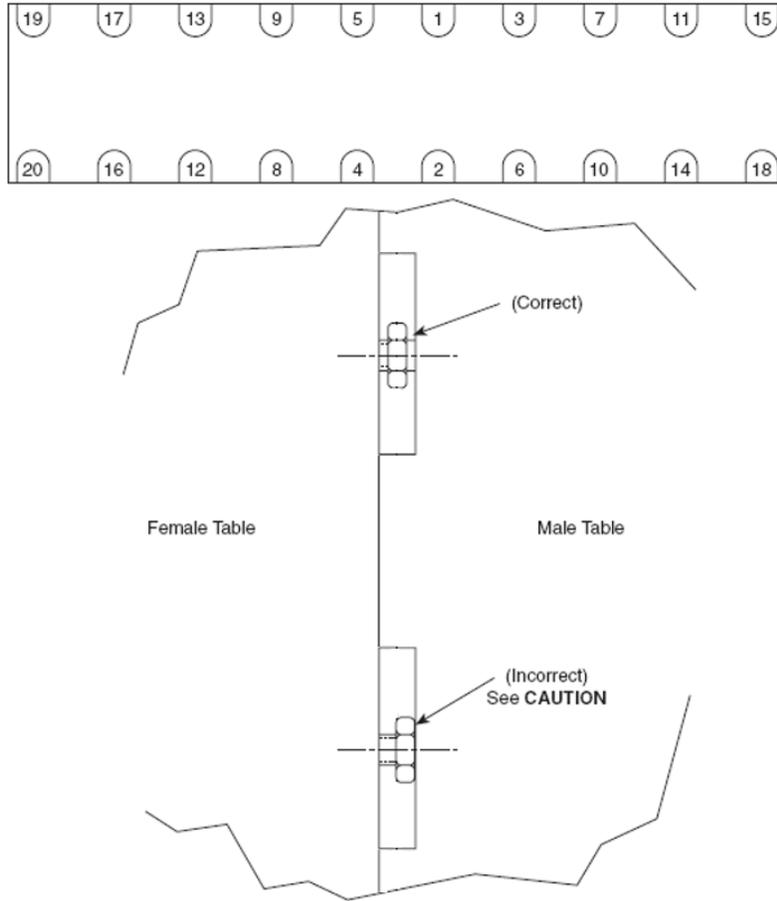

Figure 13 — Double Bolt Tightening Sequence
Do not force or over-tighten the bolts initially as this may cause binding of the other bolts and misalignment of the table sections. The second table section should be easily pulled up to the first. Figure 13 shows correct bolt head position during assembly.
11. When all bolts are uniformly engaged and table sections are in full contact, apply a final torque of 60 pound-feet (80 N-M) to all bolts using the sequence shown in Figure 13.